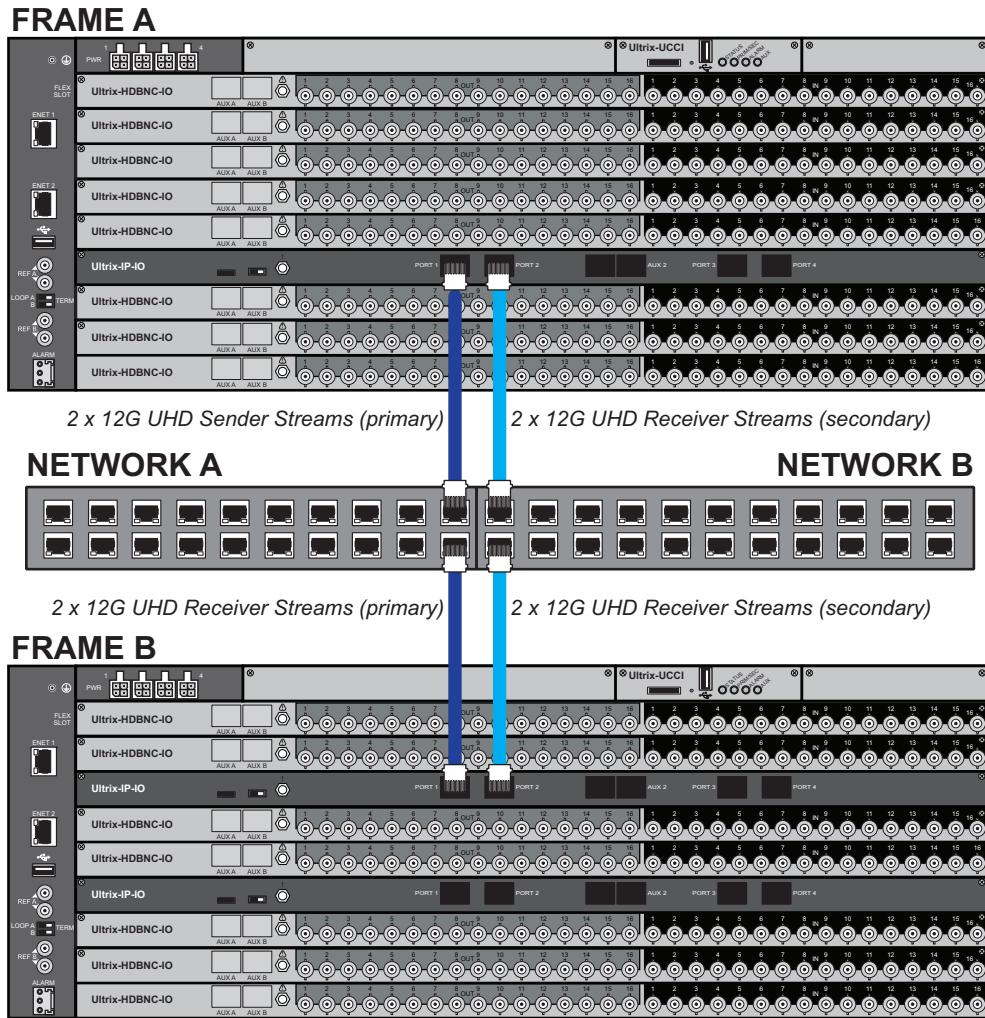

Figure 35 Example of ULTRIX-IP-IO with 12G UHD Video Streams — Redundancy Mode
**Figure 35** shows two ULTRIX-FR5 routers with one router (Frame A) transmitting two 12G UHD primary video streams and two 12G UHD secondary streams. The second router (Frame B) receives a primary set of two 12G UHD streams and a secondary set of two 12G UHD streams.